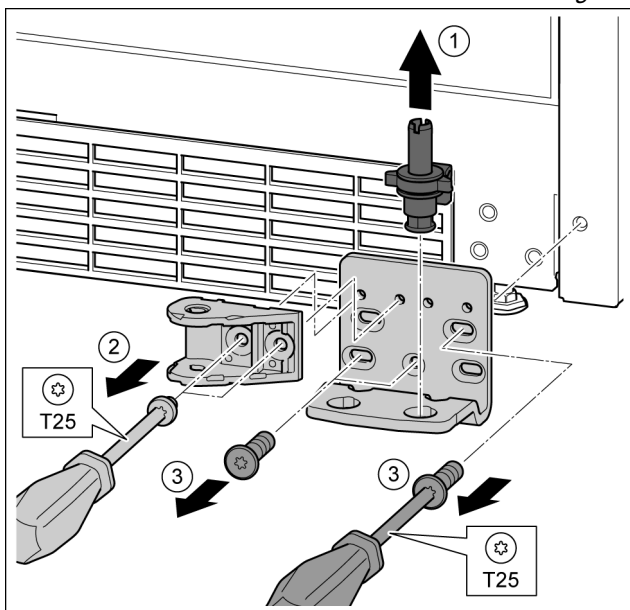

Fig. 29
- ▶ Lift the bearing pin completely upward and remove. *Fig. 29 (1)*
- ▶ Remove the screws with the T25 screwdriver and remove the soft stop connection.* *Fig. 29 (2)*
- ▶ Undo the screws with a T25 screwdriver and remove the bearing bracket *Fig. 29 (3)*